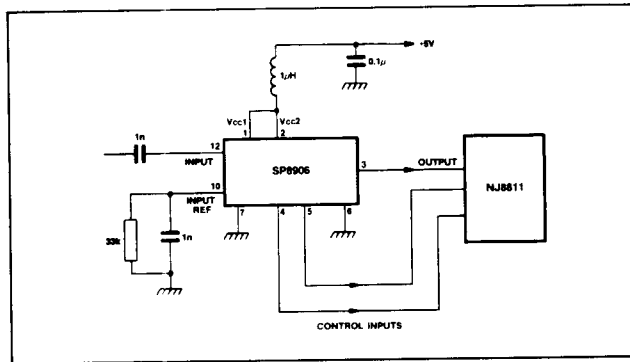

Fig. 5 Typical application showing interfacing to NJB811
2. If no signal is present the device will self-oscillate. If this is undesirable it may be prevented by connecting a 33k or greater between pin 10 and ground (pin 7), see Fig. 5.
7. The minimum input sinewave frequency can be improved by adding hysteresis (See Fig. 5) to reference inputs. Care must be taken not to apply too much hysteresis as
8. Under certain conditions, when the device is dynamically locked, an oscillation occurs which can be prevented by insertion of a 1 μ H RF choke in series with V_{cc1} and V_{cc2} . Under these conditions V_{cc1} and V_{cc2} pins should not be decoupled. See Fig. 5.